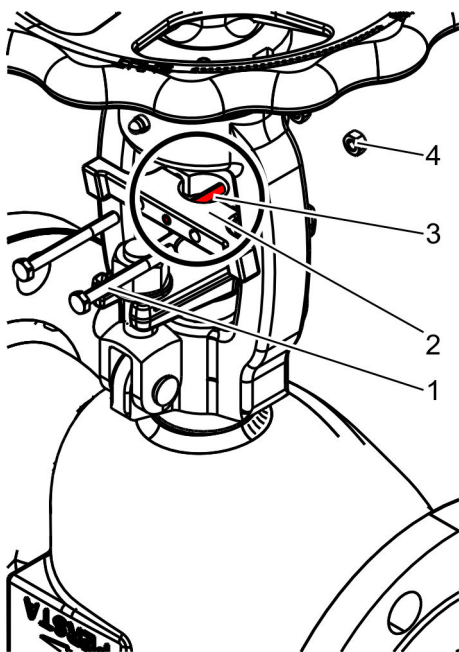

Fig. 41: Mounting the shifting claw
11. If there is a shifting claw (Fig. 41/2): Fit the two-piece shifting claw (Fig. 41/2) from two sides on to the stem.
12. Make sure that the anti-twist device (tension pin, Fig. 41/3) can be mounted in the drilled hole of the stem and shifting claw (Fig. 41/detail).
13. Mount the anti-twist device (tension pin, Fig. 41/3).
14. Fasten the shifting claw (Fig. 41/2) with bolts (Fig. 41/1), washers and nuts (Fig. 41/4).